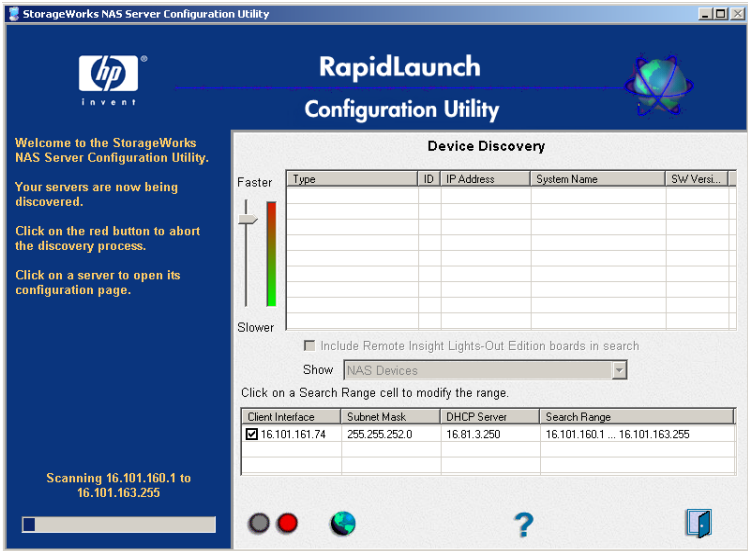

Figure 5: RapidLaunch search screen
7. Return to the PC. Select **StorageWorks NAS** from the **Show** drop-down list to have RapidLaunch list all NAS devices on the network, as shown in Figure 5.